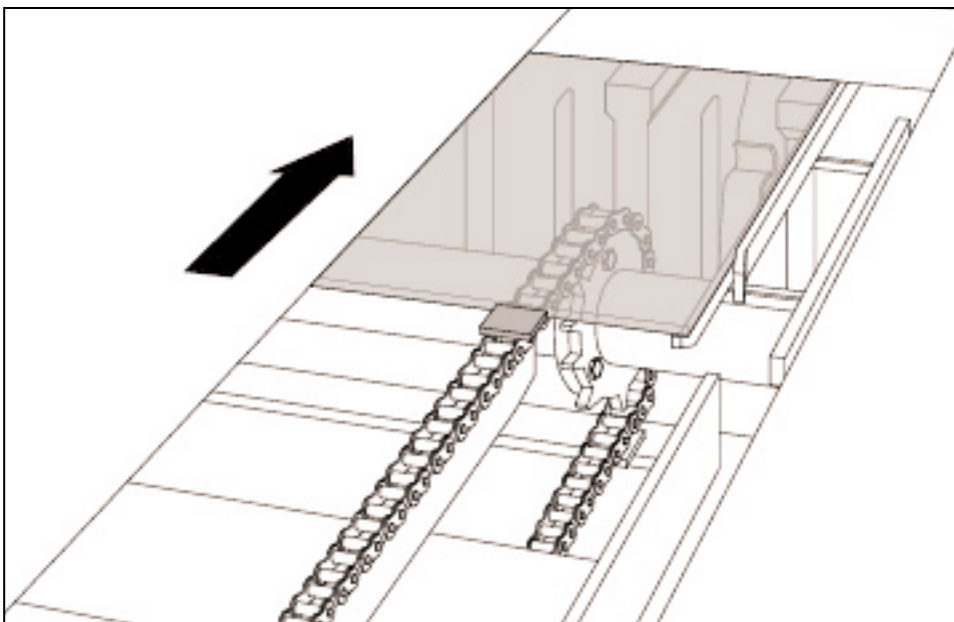

Figure 6.16 LUG (A) SHOULD BE CONTACTING PALLET WHEN IN CRADLE (B).
6.2.9 Adjust pallet chain lugs to be even with back of pallet (see figure 6.16) by removing shear bolt and moving shaft (6.17). Use wrench to adjust lug chain (6.18). Place shear bolt assembly in holes that align and tighten.